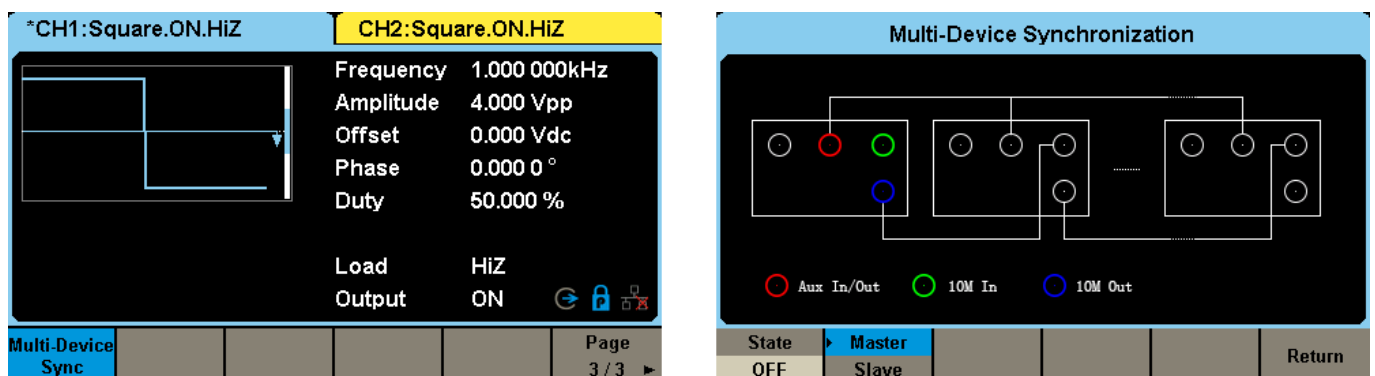

Figure 5. Multi-Device Synchronization Screen
1) Press **Utility**, go to **Page 3/3**, then press the soft key under screen to select **Multi-Device Sync**. The menu will enter the Multi-Device Synchronization screen, shown in Figure 5.